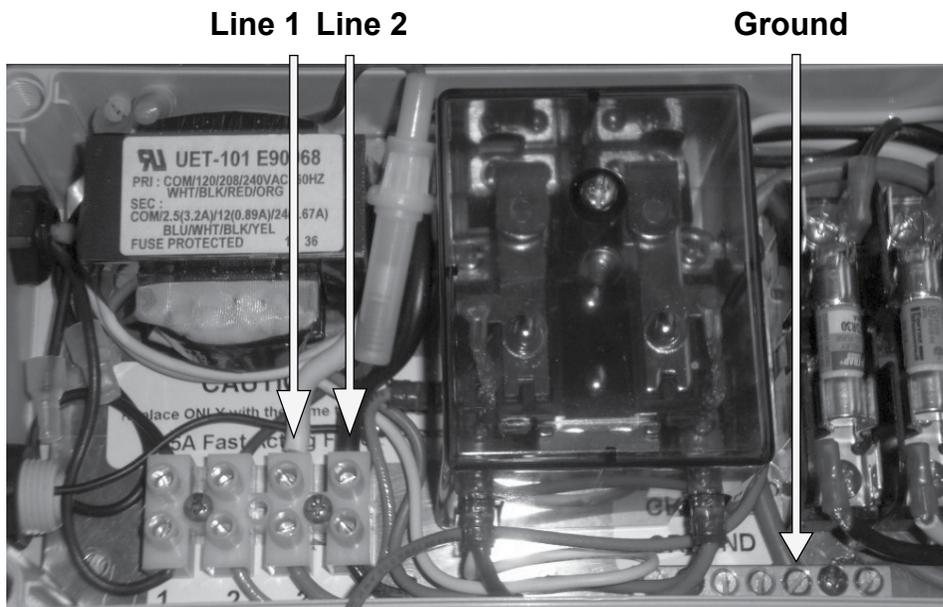

Figure 6 - Control Box Wiring - Image
- Cut excess cord at the control box. Strip back wire insulation and install Line 1, Line 2, and Ground using Figure 6 Replace the control box cover.